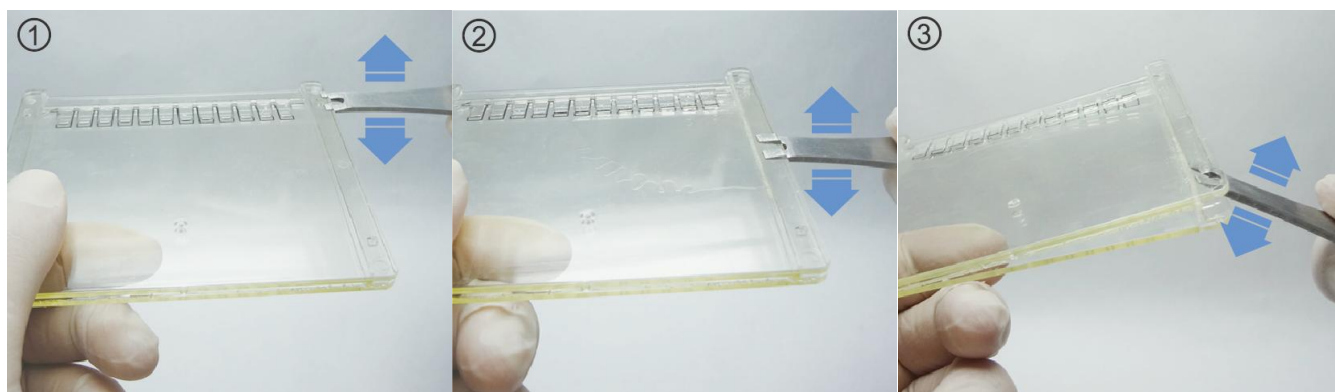

Figure 6. Open the gel cassette to remove the gel.
4. Removing a gel from the Cassette (see Figure 6)